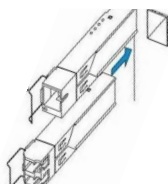

Fig. 46—SFP Transceivers Installation
Step 1. Insert an SFP transceiver into a slot. SFP transceivers are set as shown in Fig. 46.